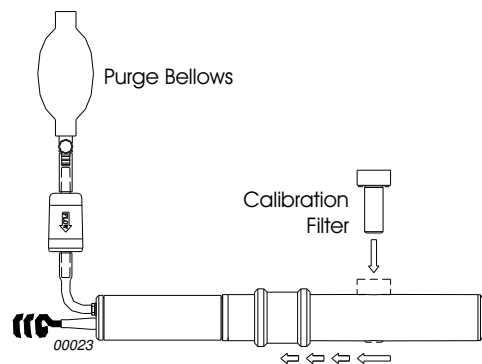

Figure 12: Inserting the Calibration Filter
5. Attach the purge bellows (supplied) to the probe purge inlet (shown in Figure 12) and rapidly squeeze the bulb 5 or 6 times.